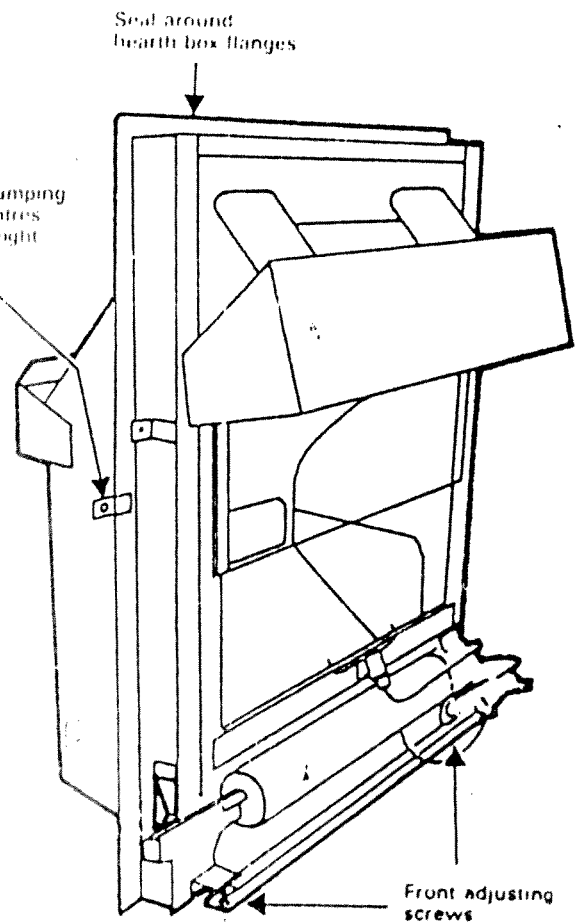
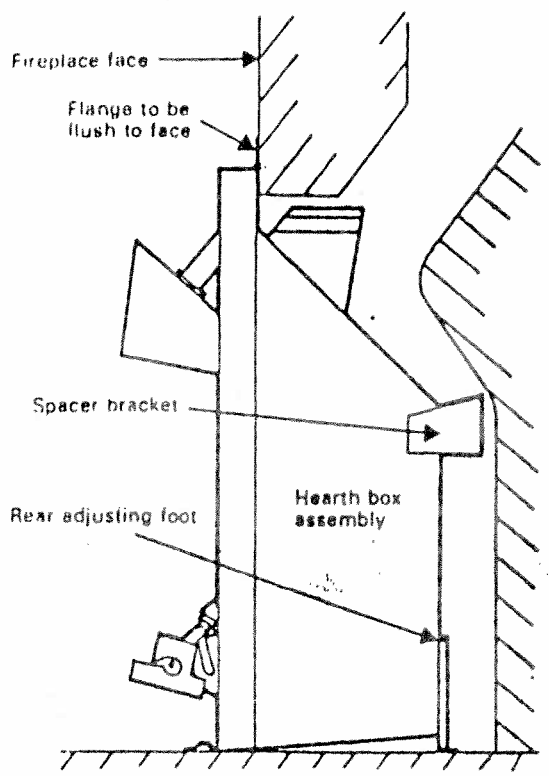

Fig. 2
Fig. 4
- 2.3 Remove the tape holding the base plate in position. Offer up the hearth box assembly (see Fig. 4) and push the box to the fireplace face. The flange of the hearth box should be flush to the surround with the base plate in very close contact with the hearth. IF THE BOX ROCKS AGAINST THE WALL FACE DUE TO AN UNEVEN FLOOR OR FIREPLACE OUT OF TRUE, REMOVE THE BOX AND ADJUST THE REAR FOOT (Fig. 4) UNTIL THE BOX IS SQUARE TO THE WALL FACE. In addition a front adjustment screw is provided at each side the hearth box assembly to correct for any sideways tilt (Fig. 2). Adjust as necessary and secure with lock nut. These screws also press the base plate to the hearth.